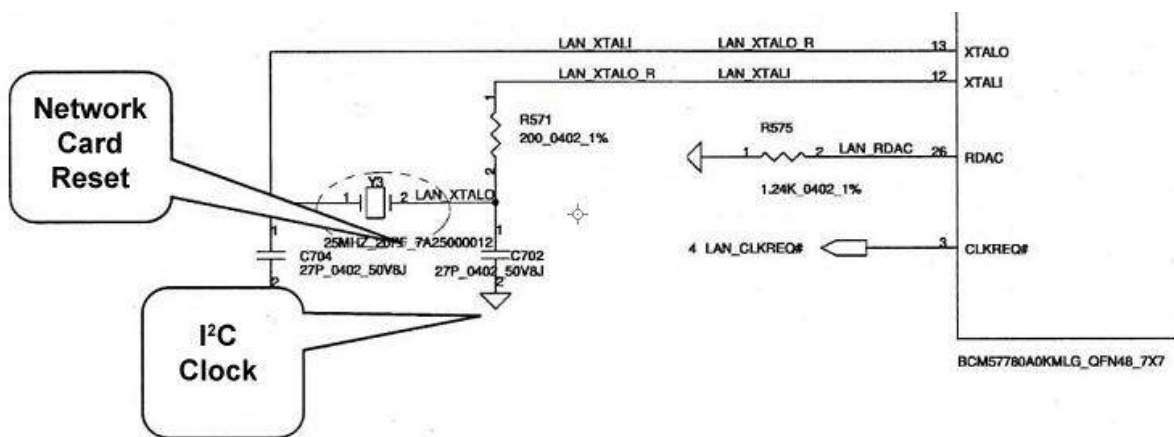

Figure 21-42: 25MHz crystal of the network card
(2) The crystal 25MHz of the network card, is shown in figure 21-42.